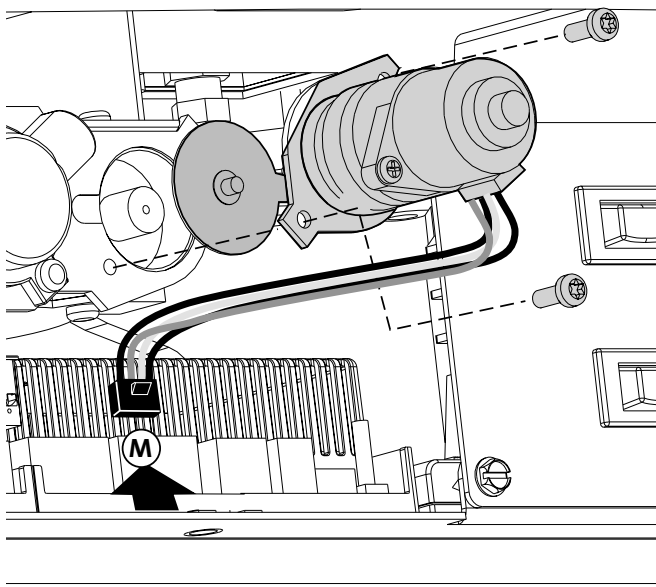

Figure 12.1. Flame Control Motor installation.
1. Using a Torx T-20 screwdriver, remove the two screws from the front of the manual regulator and remove those components as shown in fig. 12.1.
3. Connect the wire harness to terminal (M) on the front side of the IFC board, fig. 12.1.